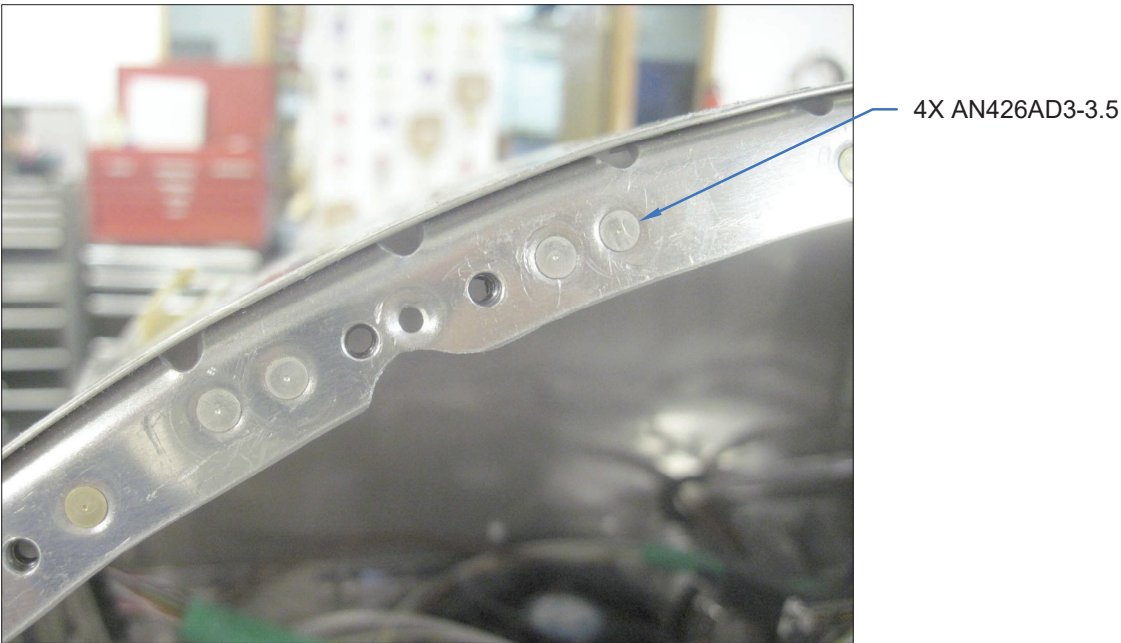

FIGURE 3: RIVETING THE NEW NUTPLATES
Step 9: Rivet the nutplates to the forward side of the F-1202D-L. See Figure 3.